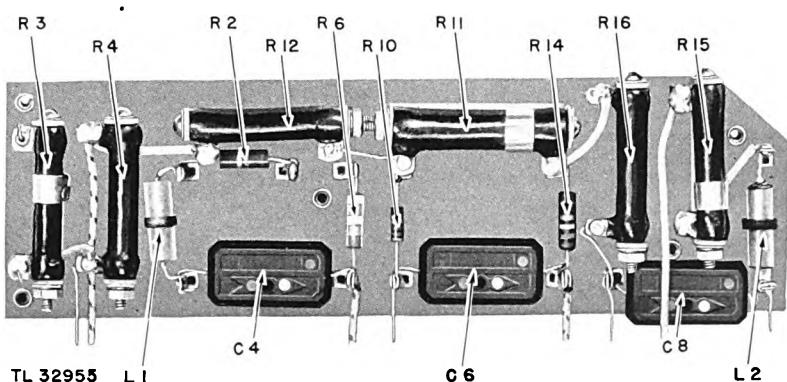

Figure 10. Terminal strip.
a. *General.* Terminal strips are used as distribution and connecting points for electrical circuits (fig. 10). Construction is simple, consisting of a strip of insulation with screw type or soldered connections mounted on it.